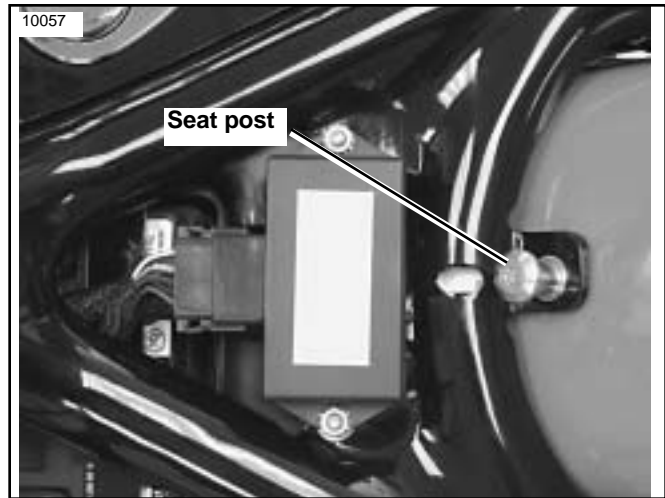

Figure 2. Seat post
3. With rib on retention nut seated into notch in fender hole, slide retention washer (6) into place from the rear. This will lock the retention nut in place.
4. **All models:** See Figure 2.